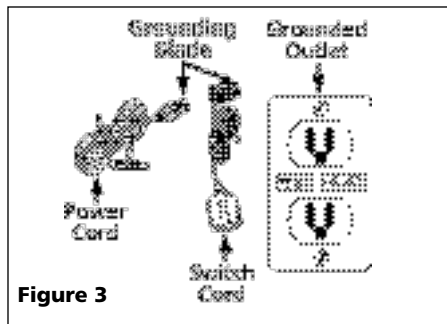

Figure 3
3. Insert the pump power cord plug directly into the back of the float switch cord plug (See Fig. 3).